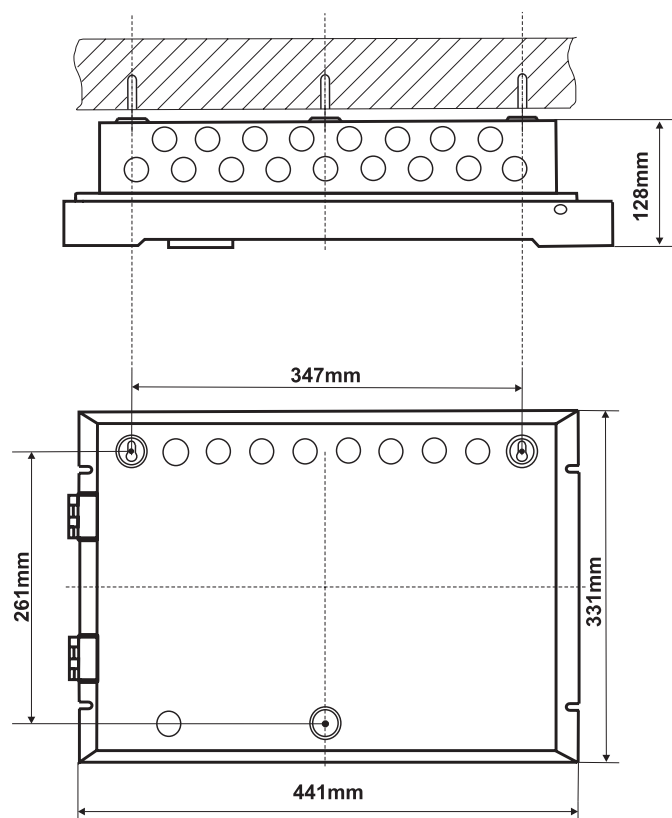

Figure 5
- Drill holes (suitable for anchors Ø6mm) on the wall and fix the metal box - see Fig 5.